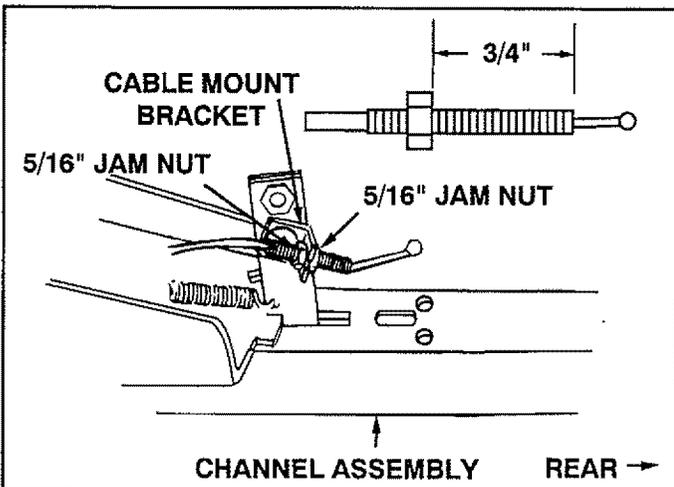

FIGURE 22 (Left Hand Side View)
- Assemble one  $5/16"$  jam nut approximately  $3/4"$  onto threaded end of control cable. Assemble threaded cable end through round hole in cable mount bracket as shown in figure 22, and secure with another  $5/16"$  jam nut. **Tighten.** See figure 22.